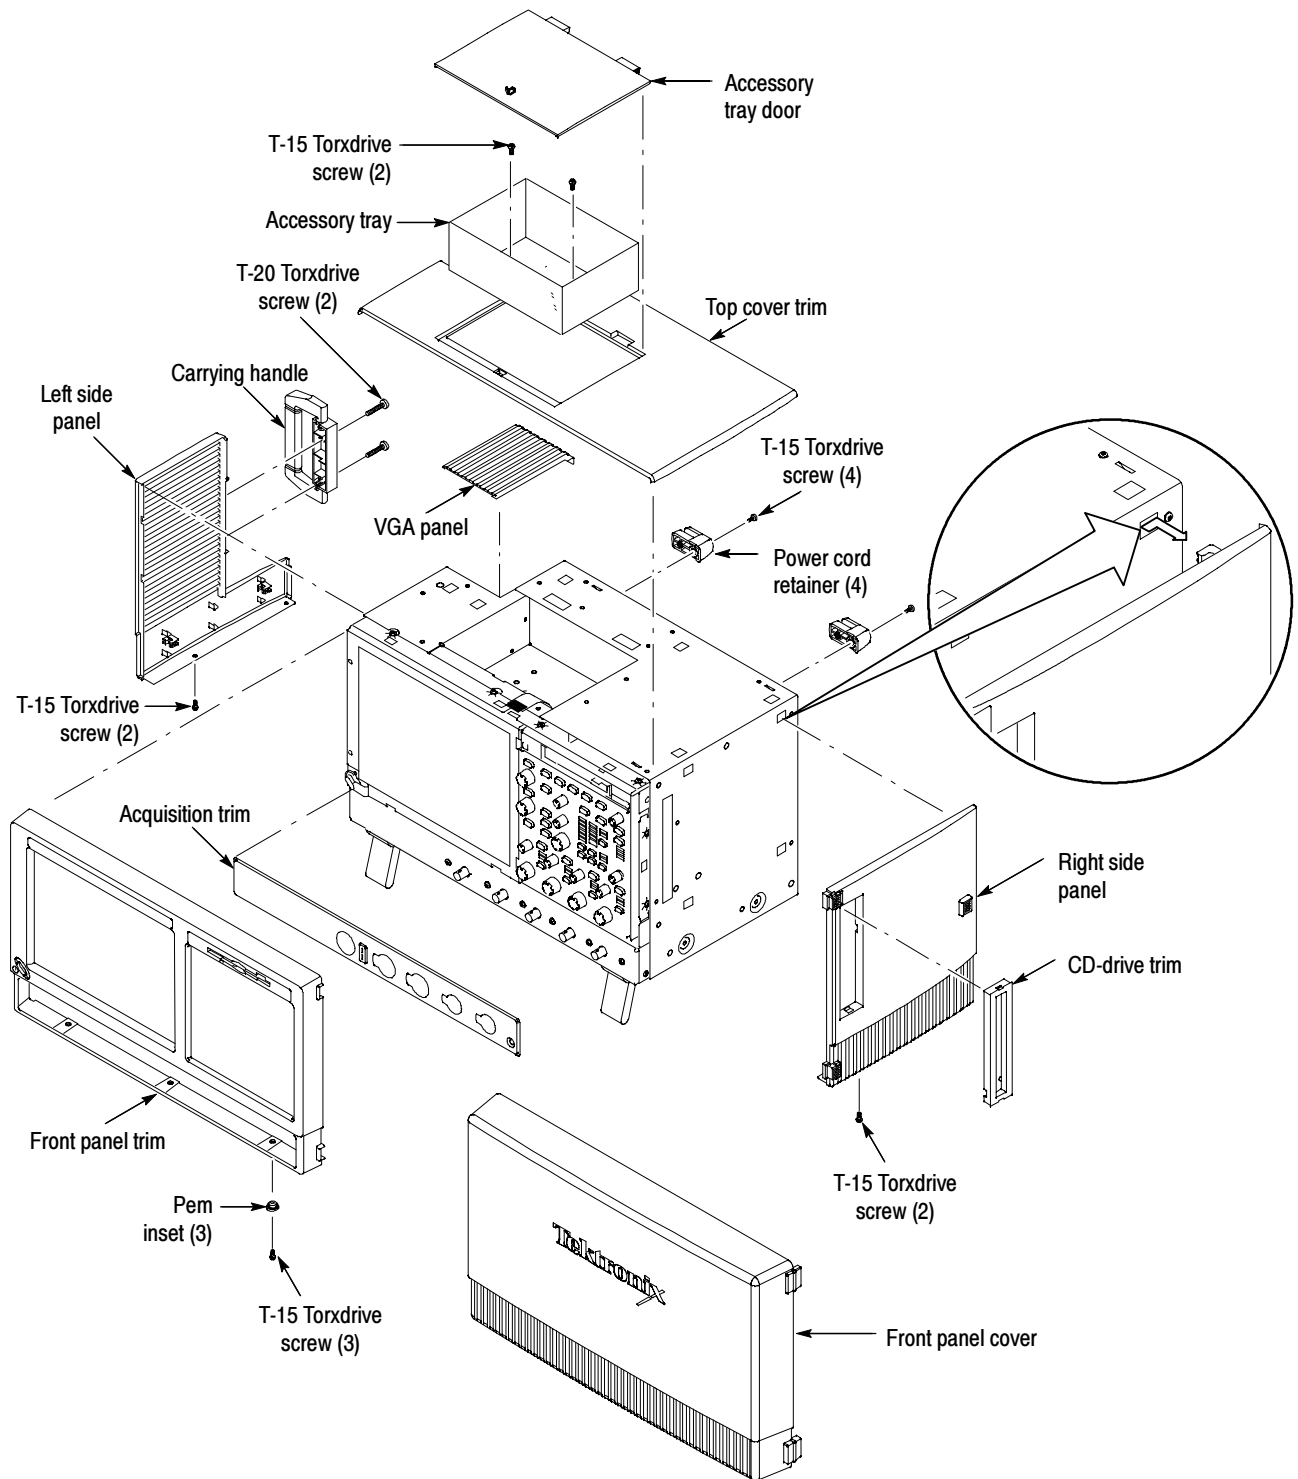

Figure 4: Trim removal
1. Locate the trim in the locator diagram. See Figure 4, page 13.
2. *Remove the right side panel:* Use Figure 4, page 13 as a guide.
3. *Remove the carrying handle and the left side panel:* Use Figure 4, page 13 as a guide.
4. *Remove the VGA panel:* Remove the VGA panel by gently pulling the trim up and out from the oscilloscope. Refer to Figure 4, page 13 as a guide.
5. *Remove the top cover:* Use Figure 4, page 13 as a guide.
- f.** Remove the acquisition trim from the oscilloscope. Use Figure 4, on page 13 as a guide.